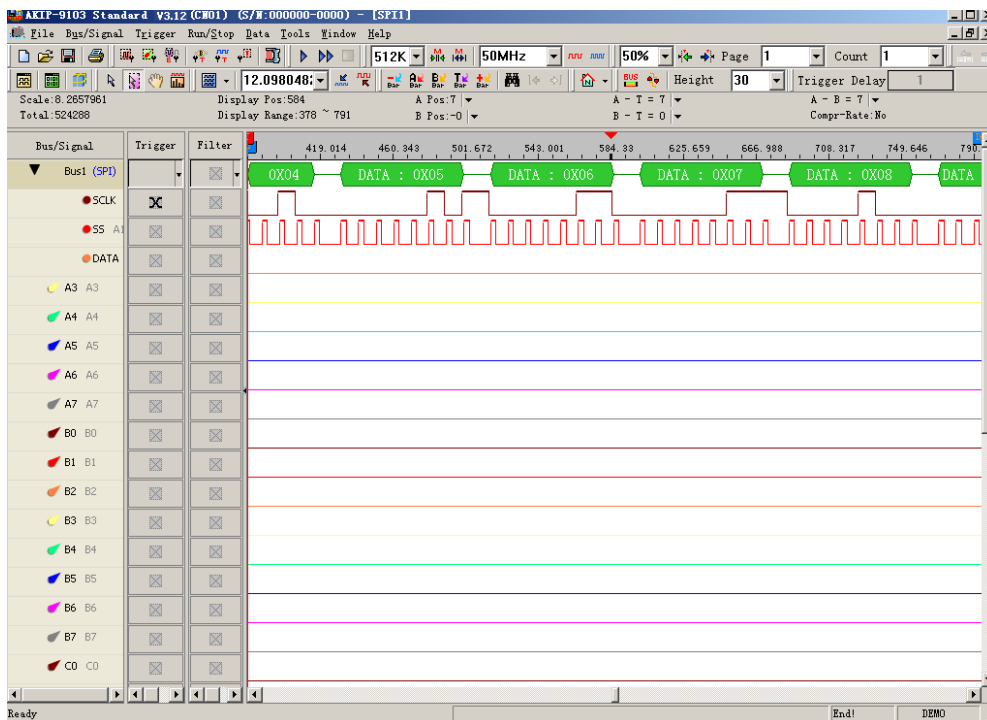

Fig 4-85 – SPI Signal
Step6. Click **Run** to acquire the SPI signal from the tested SPI circuit. Refer to the Fig 4-85.